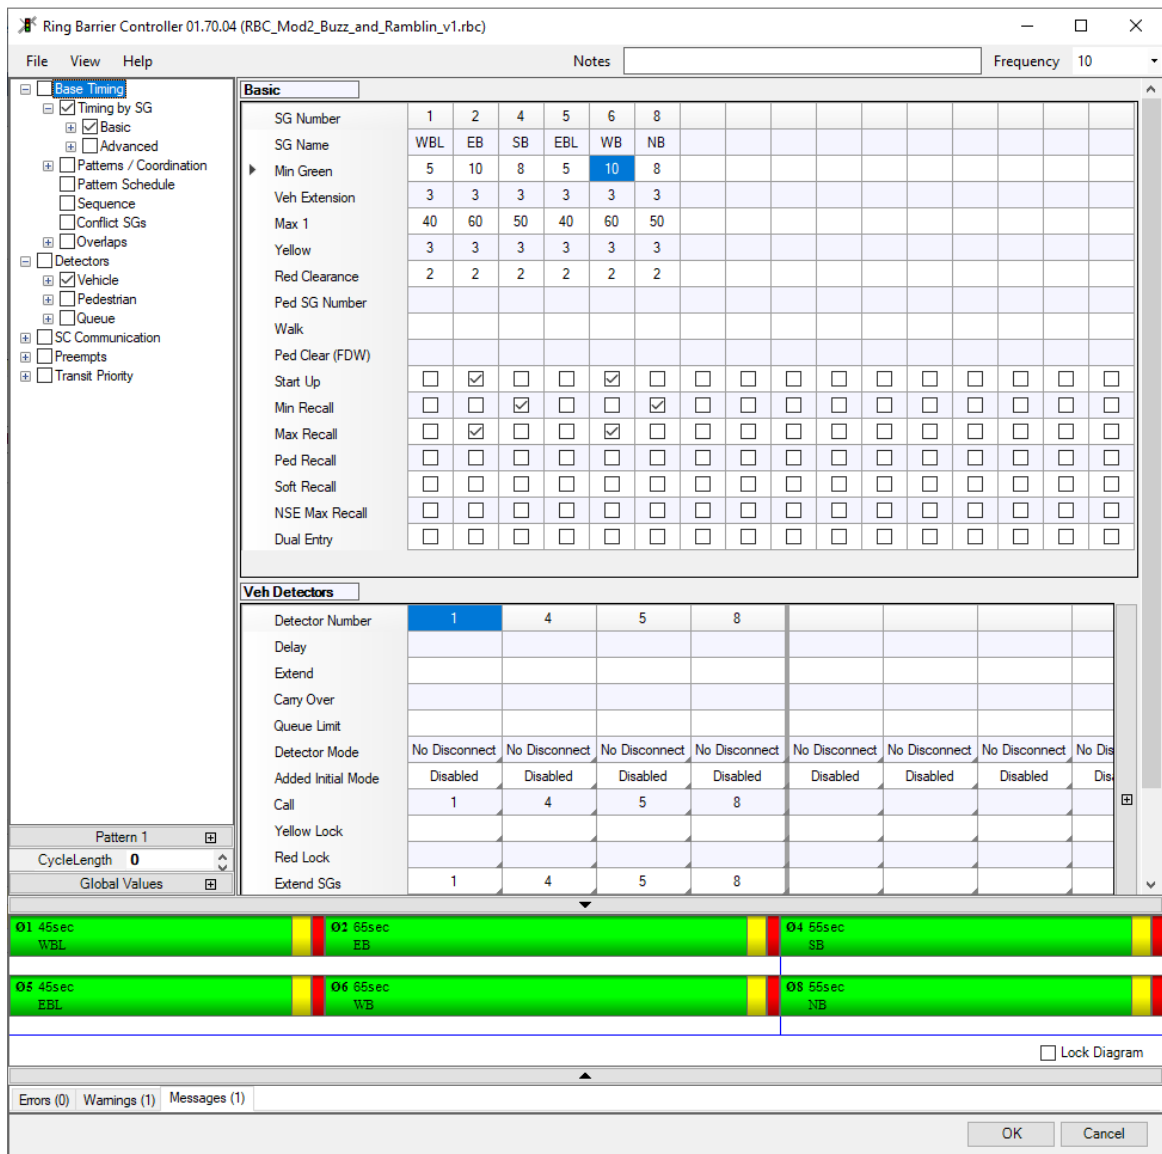

Figure 13 Buzz Blvd and Ramblin St. Intersection RBC Controller Settings
- step viii. Figure 13 below shows the *RBC* pop-up window. Populate the open *Edit Signals Group* Window to match Figure 13. As with the other intersections, the items we are editing are *Base Timing* → *Timing by SG* → *Basic* and *Detectors* → *Vehicles*.